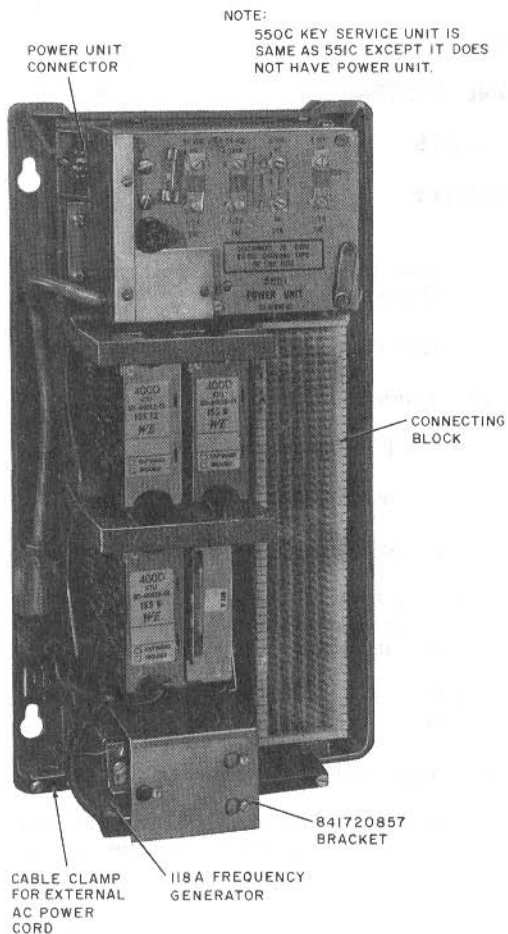

Fig. 1—551C KSU With Frequency Generator
(a) **Basic Units (Fig. 1):**
- (c) **551A KSU (MD):** Connect the external power cord to the power unit cord through the cutout in the bottom of the KSU case.
- (a) Attach the generator to the mounting bracket (841720857) with the three screws supplied (Fig. 1). Then snap the pins of the bracket arms into the holes in the backboard flanges of the KSU. Let the generator rest against the front of the interrupter with its power cord to the left. Connect the feed-through type plug to the external ac power cord and, if the KSU is a 551C, to the power unit cord.